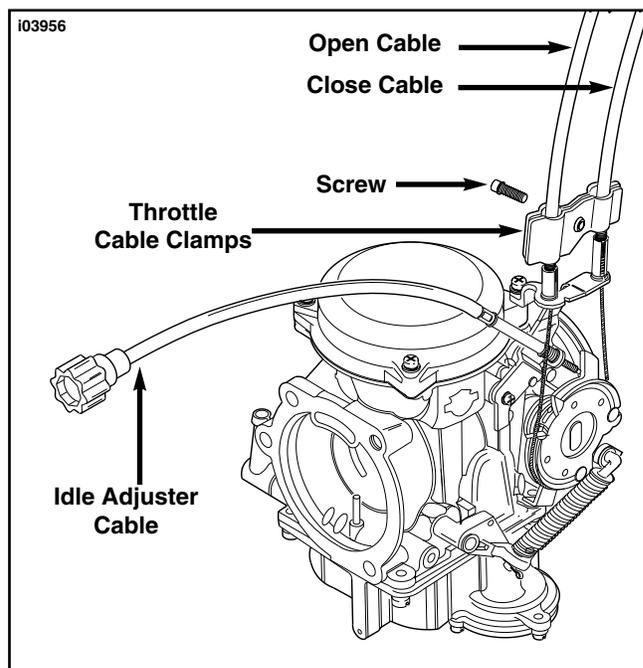

Figure 6. Throttle Cable Installation (Buell)
3. See Figure 6. Remove throttle cable clamps and discard.